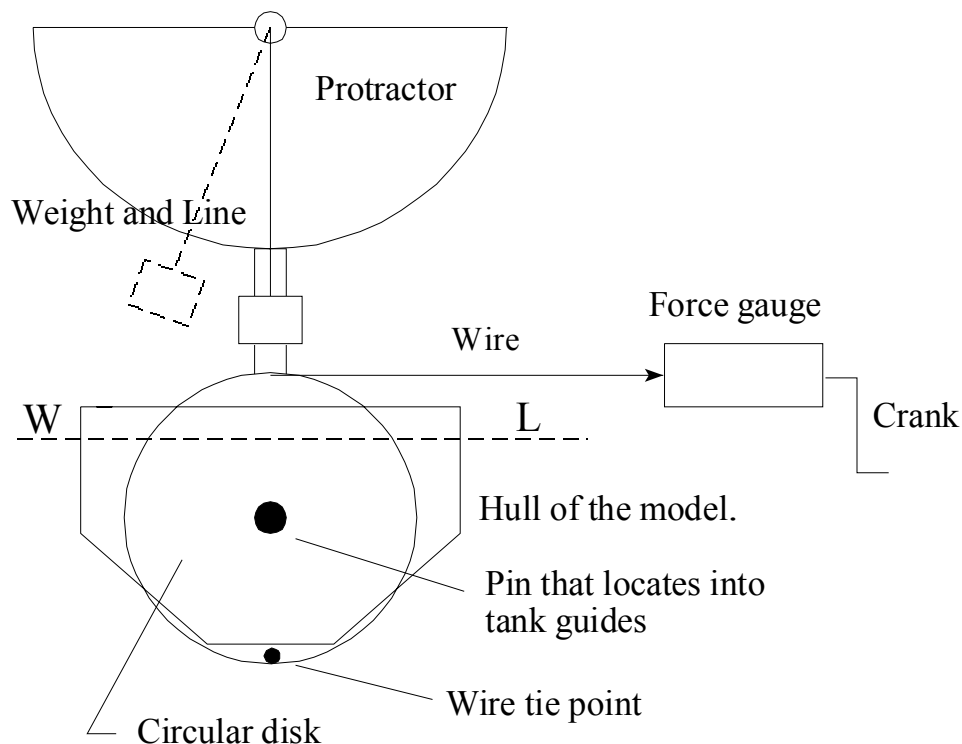

Figure 1 – Stern view of apparatus
1. The apparatus used in this lab is exactly the same as for lab 5, the stern view is shown in Figure 1. The one major difference in this lab is that the curve of intact statical stability is being constructed for the model with weights moved to the starboard post, this will give the model a center of gravity starboard of the centerline.